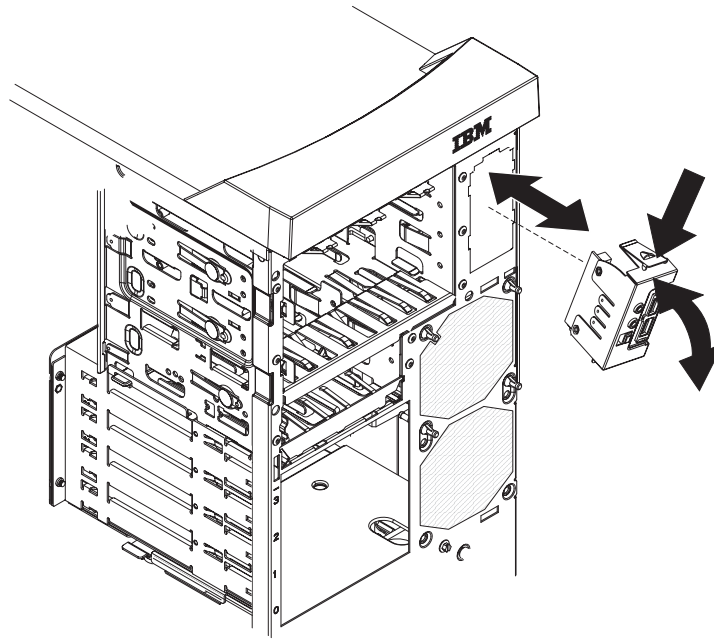

*Figure 41. Removing the card/bracket assembly*
5. Press the latch on the top of the assembly; the top of the assembly detaches from the chassis (see Figure 41).